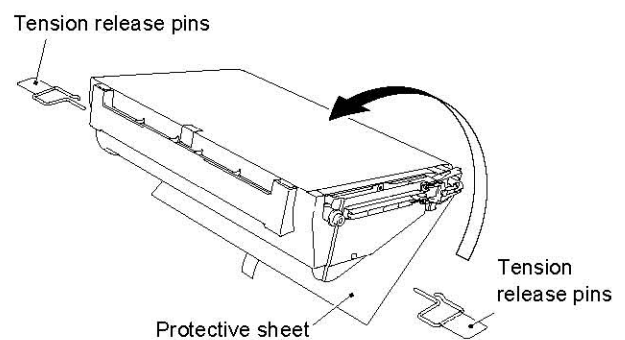

Fig. 6-13
- (7) Install the new OPC belt cartridge into the guides at both sides in the printer. (Fig.6-13)